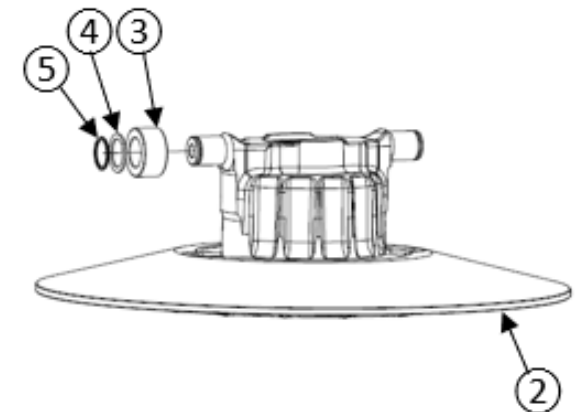

Figure 23
- Remove the 2 washers ④ and the 2 rollers ③ from the sliding sheave ② (figure 23).